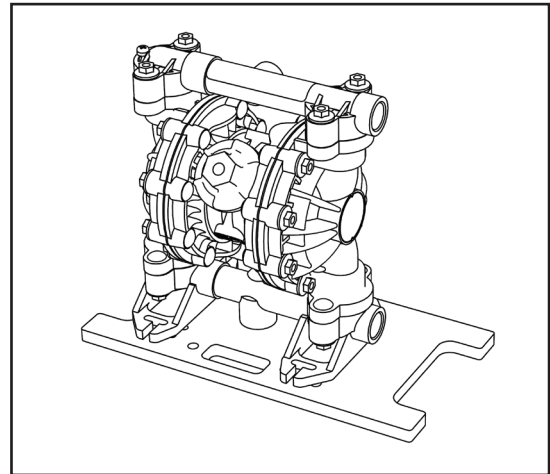

Fig. 9.1: Pump Mounting Plate, shown with Graco Husky 515 pump on PBX-50 plate.
1. Securely mount the pump with appropriate hardware (not included) [Figure 9.1].